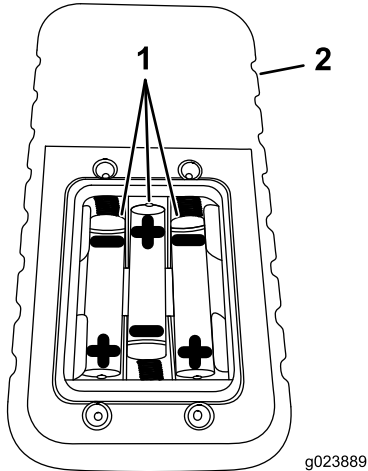

Figure 61
4. Install 3 new, AAA batteries in the orientation shown in Figure 61.